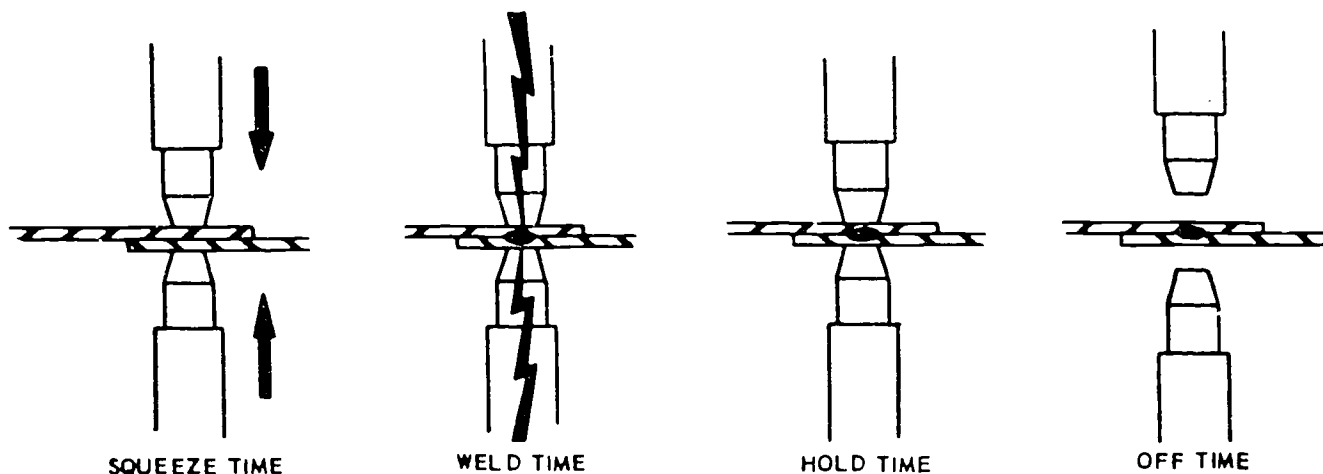

Figure 4-4. Weld cycle.
**Cycle.** The cycle of the welder is the time between the sequence of timed steps that start when you depress the foot switch. If a machine is equipped with a repeat cycle, it will continue to repeat all of the steps until the foot switch is released. This is very useful on jobs that require many welds in a small area. If there is no repeat cycle, or if it is turned off, the machine will complete one cycle each time the foot switch is depressed. The weld cycle is shown in figure 4-4. The off time is when the welder is open, ready for the next cycle to start. When the weld is off the tips usually stay open.